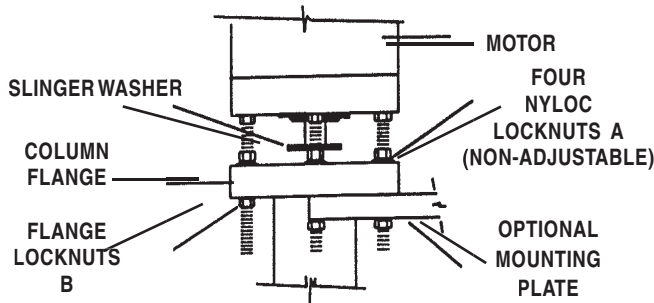

FIGURE 2
3. Loosen and remove four flange lock nuts (B). Refer to Figure 2.